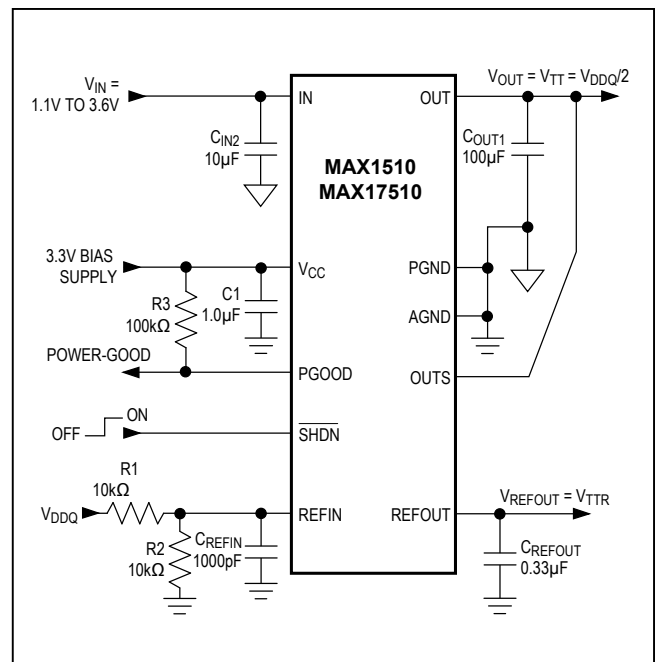

Figure 1. Standard Application Circuit
(V_{IN} = 1.8V, V_{CC} = 3.3V, V_{REFIN} = V_{OUTS} = 1.25V, $\overline{\text{SHDN}}$ = V_{CC}, circuit of Figure 1, T_J = T_A = -40°C to +85°C for MAX1510ETB, T_J = T_A = -40°C to +125°C for MAX17510ATB, unless otherwise noted. Typical values are at T_A = +25°C.) (Note 1)
($V_{IN} = 1.8V$, $V_{CC} = 3.3V$, $V_{REFIN} = V_{OUTS} = 1.25V$, $\overline{SHDN} = V_{CC}$, circuit of Figure 1, $T_J = T_A = -40^\circ C$ to $+85^\circ C$ for MAX1510ETB, $T_J = T_A = -40^\circ C$ to $+125^\circ C$ for MAX17510ATB, unless otherwise noted. Typical values are at $T_A = +25^\circ C$.) (Note 1)
(Circuit of Figure 1. $T_A = +25^{\circ}\text{C}$, unless otherwise noted.)
(Circuit of Figure 1. $T_A = +25^\circ\text{C}$, unless otherwise noted.)
The MAX1510/MAX17510 are low-voltage, low-dropout DDR termination linear regulators with an external bias supply input and a buffered reference output (see Figures 1 and 2). V_{CC} is powered by a 2.7V to 3.6V supply that is commonly available in laptop and desktop computers. The 3.3V bias supply drives the gate of the internal pass transistor, while a lower voltage input at the drain of the transistor (IN) is regulated to provide V_{OUT}. By using separate bias and power inputs, the MAX1510/MAX17510 can drive an n-channel high-side MOSFET and use a lower input voltage to provide better efficiency.
The MAX1510/MAX17510 regulate OUTS to the voltage set at REFIN, making the devices ideal for memory applications where the termination supply must track the supply voltage. Typically, REFIN is set by an external resistive voltage-divider connected to the memory supply (V_{DDQ}) as shown in Figure 1. The maximum output voltage of 1.5V is limited by the gate-drive voltage of the internal n-channel power transistor.